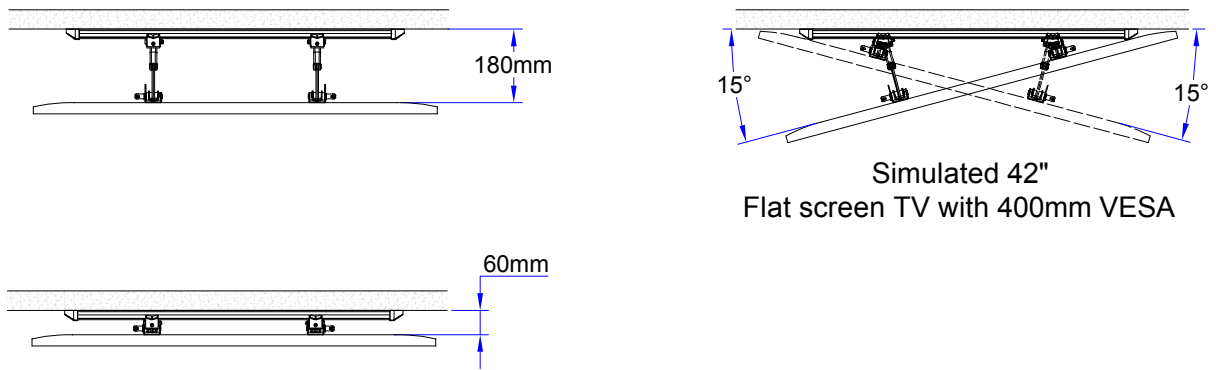

Figure 6
Step 5: Adjustment distance from wall and rotation angle from side to side. (Figure 6)